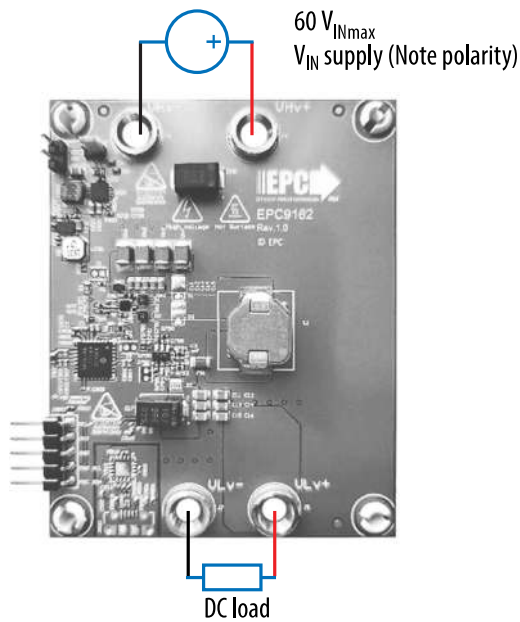
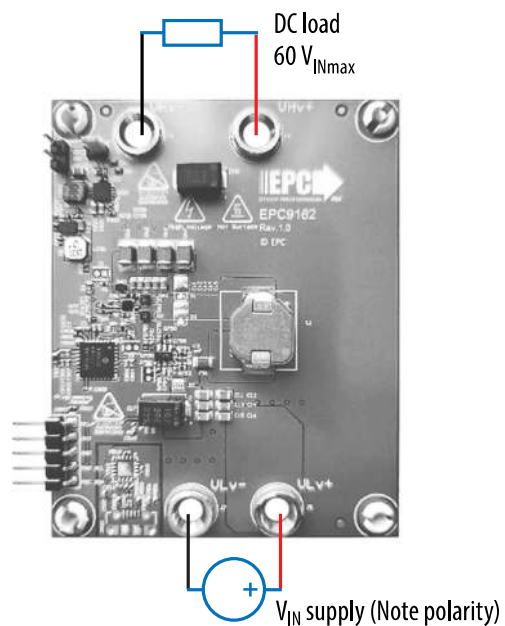

Figure 10: Input and output connection (buck)
Figure 11: Input and output connection (boost)
1. With power off, connect the input power supply to  $V_{LV}$  or  $V_{HV}$  as shown in Figure 10 for buck operation and Figure 11 for boost operation.
2. With power off, connect the load to  $V_{LV}$  or  $V_{HV}$  as in Figure 10 for buck operation and Figure 11 for boost operation.